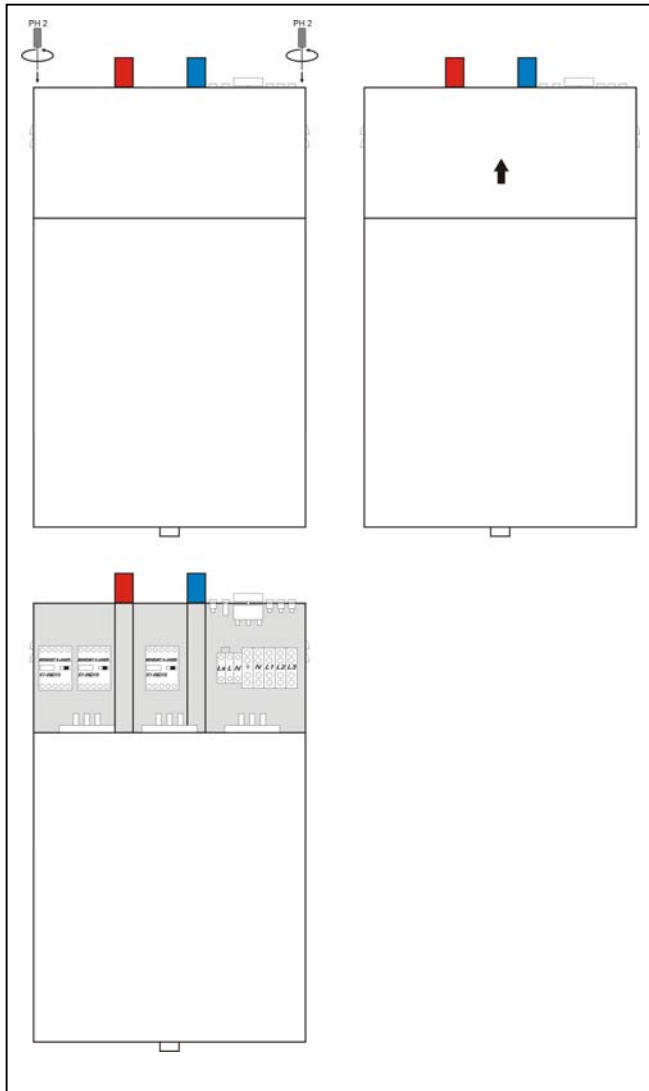

Figure 3: Opening the boiler (Demounting front casing)
- ④ Draw positions for drilling the holes for mounting set respecting minimum distances (Figure 3).